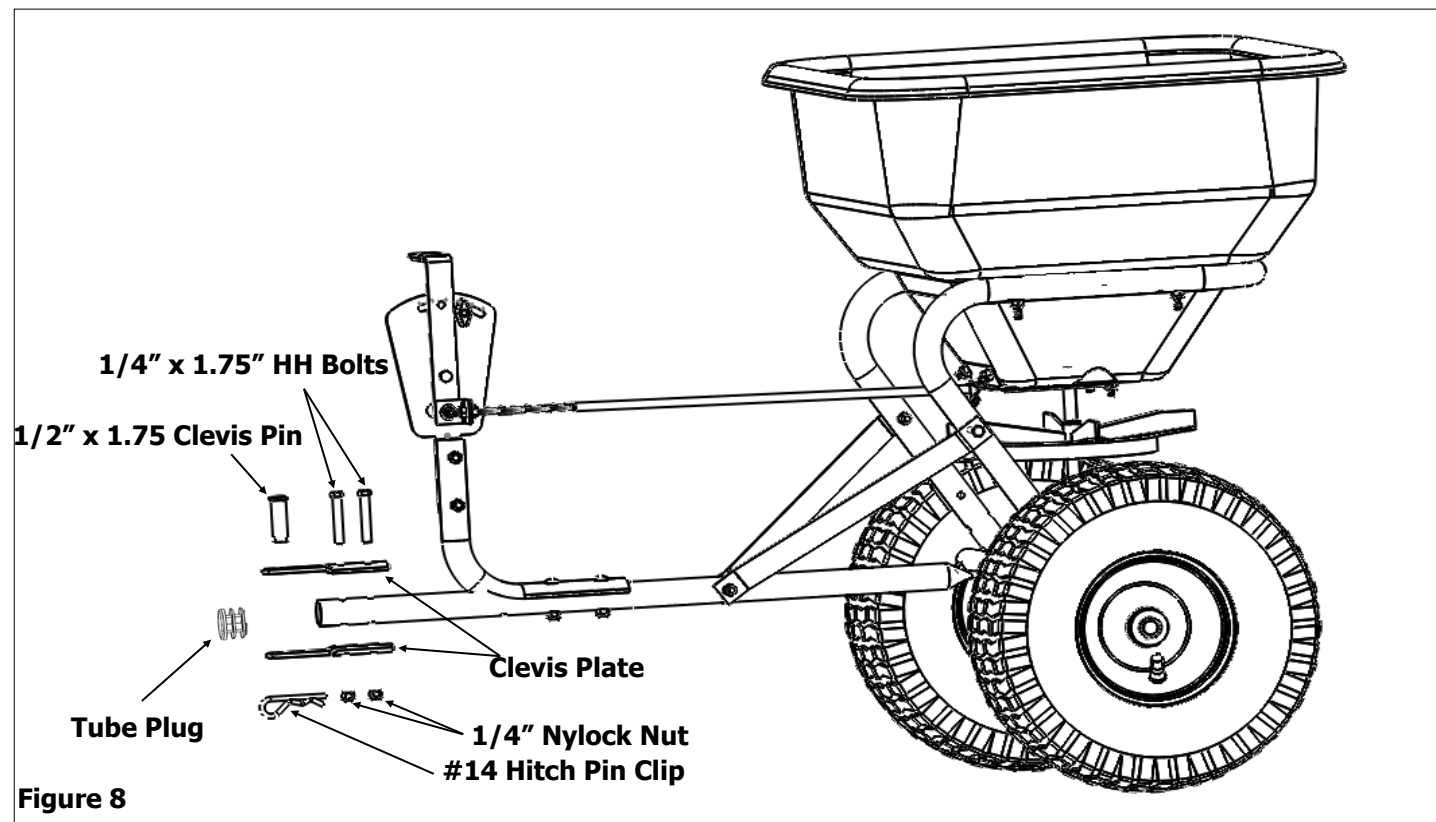

Figure 8
8. Gently tap Tube Plugs into end of Tow Bar. Attach the two Clevis Plates to the top and bottom of the Tow Bar, using two 1/4" x 1-3/4" Hex Head Bolts and two 1/4" Nylock Nuts. Insert the 1/2" x 1-3/4" Clevis Pin through holes in Clevis Plates. Secure this with a # 14 Hitch Pin Clip. See Figure 8.